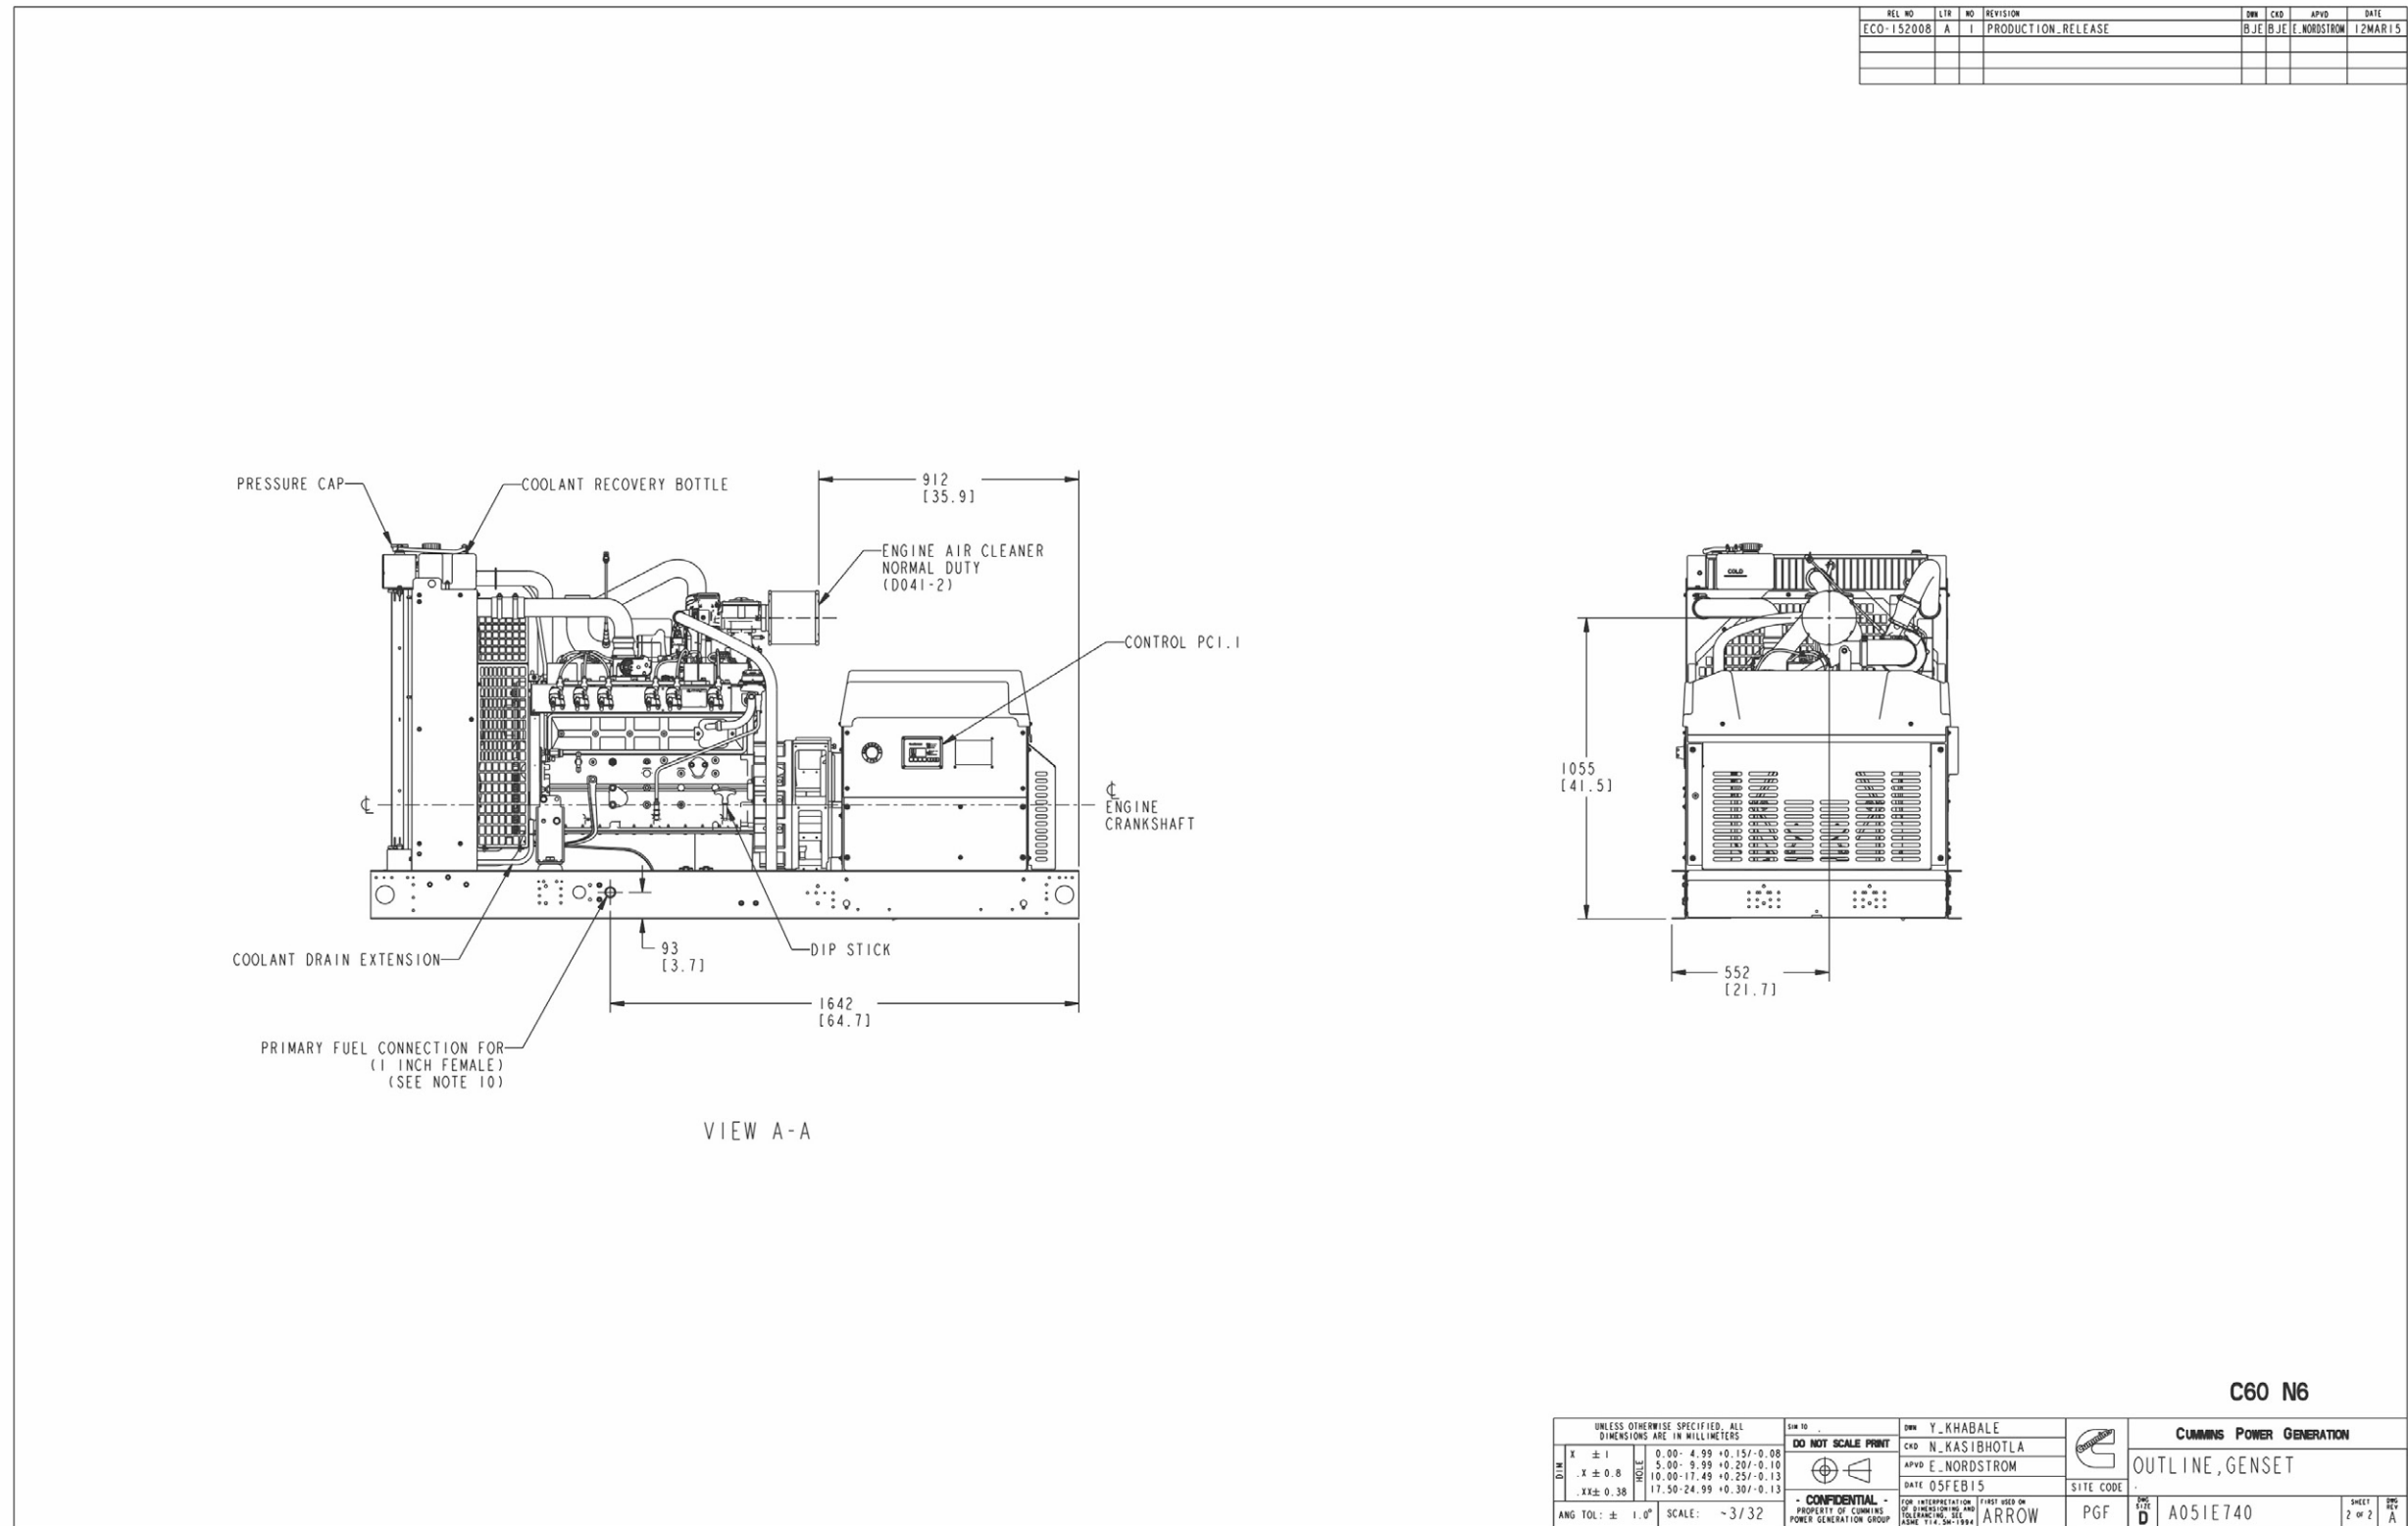

FIGURE 36. GENERATOR SET OUTLINE, 60 KW (SHEET 2 OF 2)
- Figure 36. Generator Set Outline, 60 kW (Sheet 2 of 2) 108